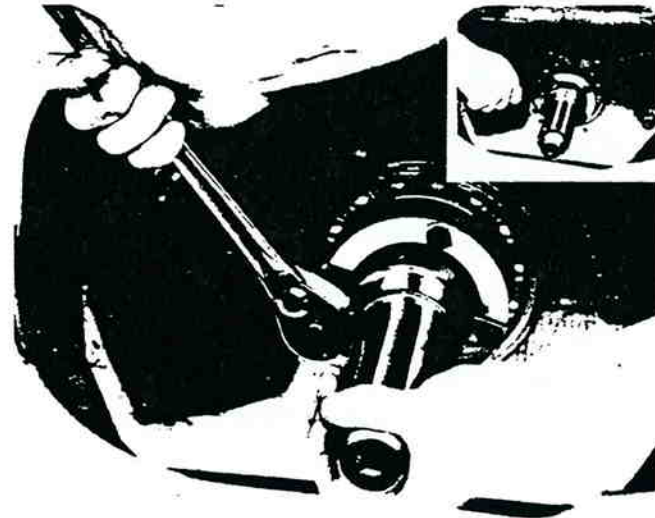

Figure 13-155. Tightening Capscrews.
4. Secure flat keys with 5/16"-24 x 1" capscrews and tighten all capscrews in spacer ring evenly and securely. Install safety wire (figure 13-155).